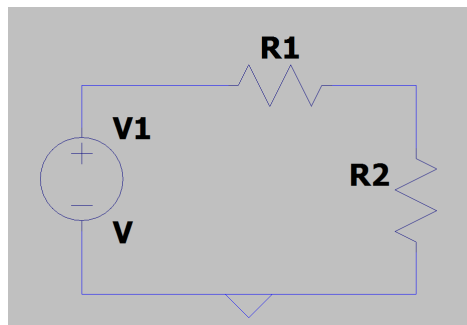

Figure 1: A simple voltage divider
2. Now, replace R2 in Figure 1 with an inductor and construct the following RL circuit: